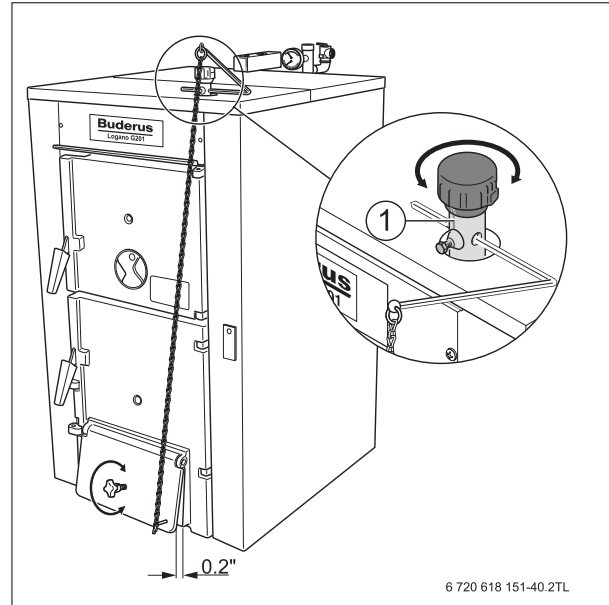

Fig. 5 Setting the firing controller
- Set the firing controller to the red marking (70 °C/ 158 °F) (→ Fig. 5) or depending on the outdoor temperature according to Tab. 4.